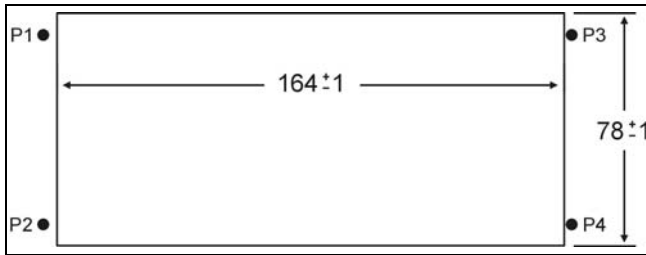

Figure 3.3 Fixing hole positioning diagram of HCS-4368/50 series flush-mounting voting unit (unit: mm)
- Cut a hole in the table according to the dimensions in figure 3.3;